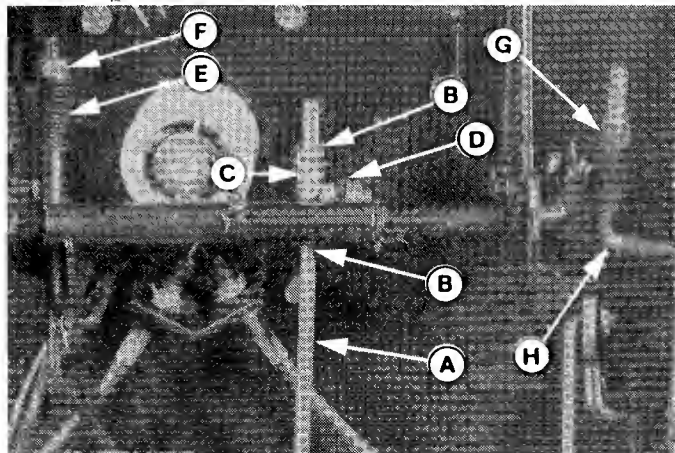

Figure 28.
2. Loosen nuts (B, figure 28) on either side of guide (C). Leave 1/4" clearance on each side.
11. Tighten the two nuts (B, figure 28) against the guide.
2. The clutch rod spring (E, figure 28) should measure 1-3/16" to 1-5/16" along the long side. To adjust, tighten or loosen the nut (F).
3. Pull the brake rod (H, figure 28) toward front as far as possible. Tighten or loosen the nut (G) to achieve a gap of 3/8 inch between rear surface of nut and the guide that rod extends through.